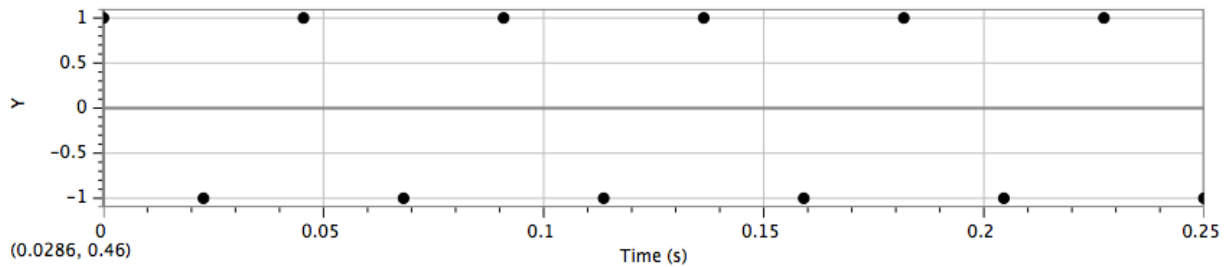

Figure 5: 22-Hz wave sampled at 44 Hz, the lowest rate allowed by the rule of thumb.
Notice that the angular frequency of the fit (B) is 138.2 rad/s, which is equivalent to 22 Hz. Now let's see what the plot looks like if we sample at 44 Hz, the lowest effective sampling rate according to the Rule of Thumb (Figure 5).